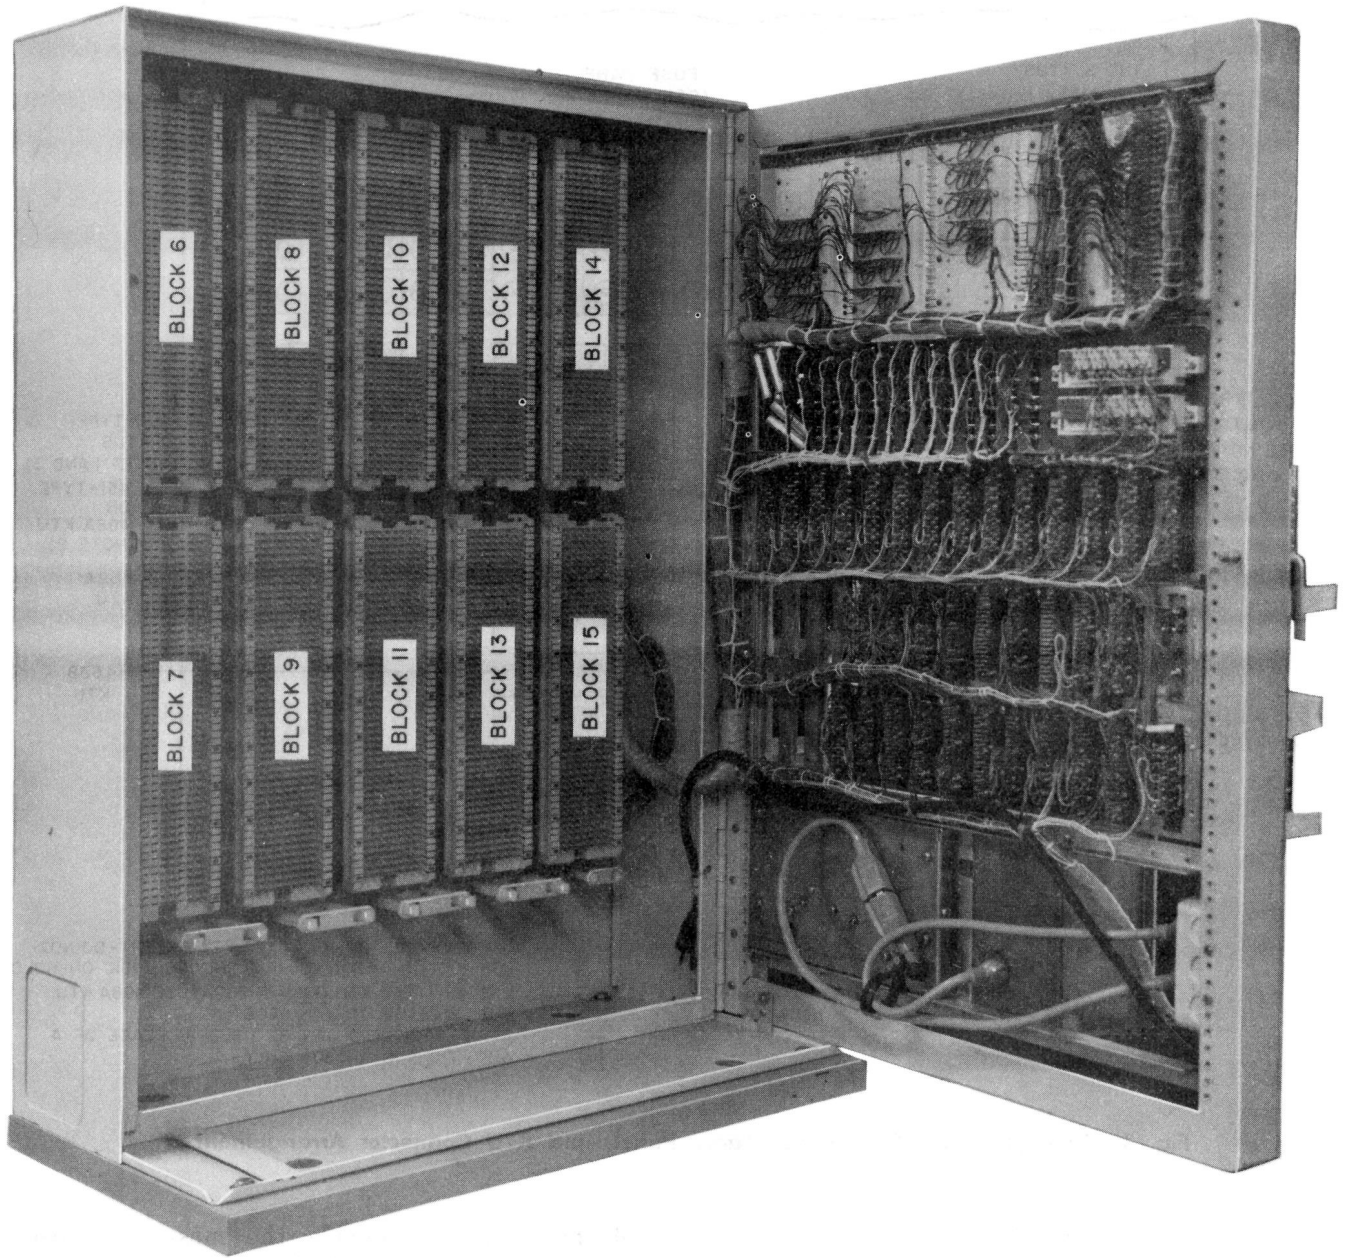

Fig. 2—580-Type KSU (Gate Open)
2.09 All wiring connections are made on connecting blocks located in the KSU (Fig. 2). As all stations pick up all lines and each line appears on the same button at all telephone sets, all equipment connections are factory-wired to the connecting blocks.